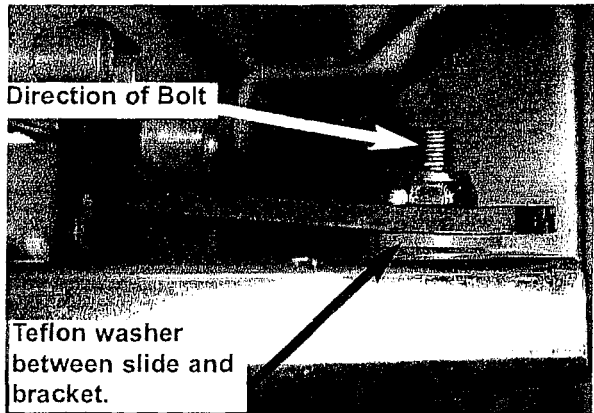

Fig. 5
4. Reinstall the telescoping slide, using new Screw, part #TBB 69002073, Nut, part #TBB 29940013, and original teflon washer. Fig 5 & 6